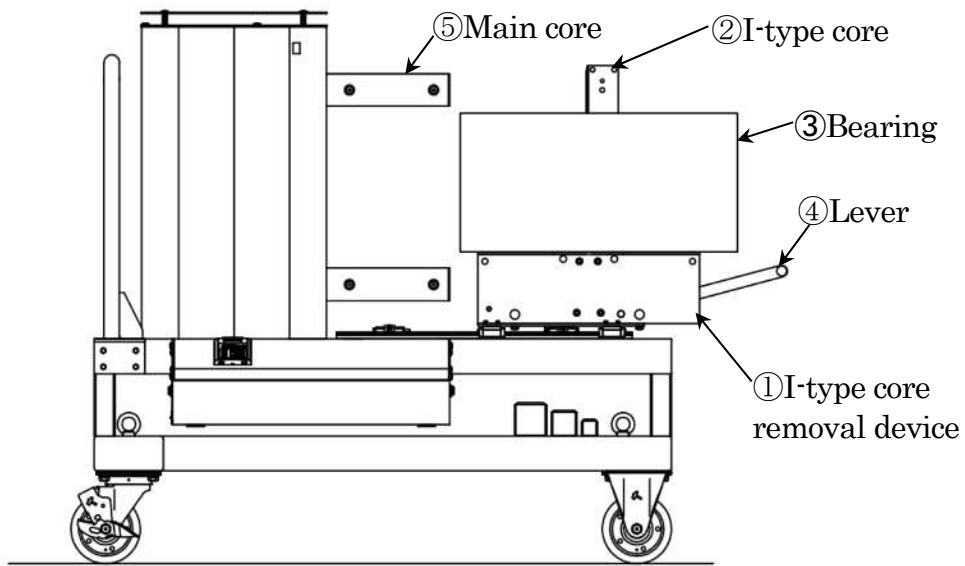
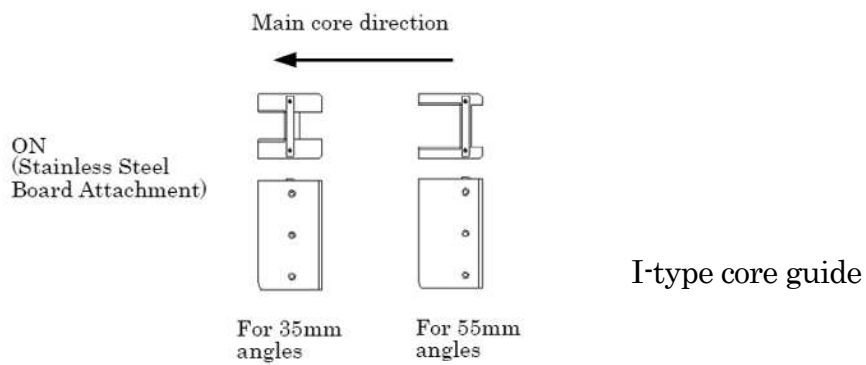
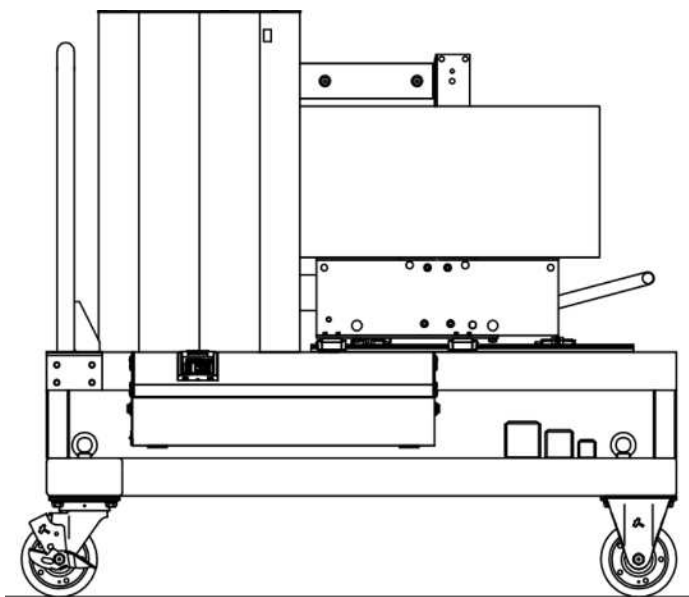

Fig 7-16
Fig 7-17
Fig 7-18
- (i) Ensure that the ① I-type core removal device is drawn to the far-right portion as shown in Figure 7-16.
- (iii) If you use the ② I-type core other than the largest cross-section for the type, insert the I-type core guide shown in Figure 7-17 into the core insertion part of the I-type core removal device. (The side with the stainless steel board is to be upside.)
- (iv) Place the ③ bearing on the I-type core removal device
- (v) Stand the ② I-type core on the ① I-type core removal device as indicated in Figure 7-16.
- (vi) Lower the ④ lever and slide it toward the ⑤ main core.
- (vii) Release the ④ lever after the ② I-type core touches the ⑤ main core as indicated in Figure 7-18.
- (i) From the state of Figure 7-18, lower the ④ lever and pull it until it is as shown in Figure 7-16.
- (ii) Detach the ② I-type core.
- (iii) Remove the ③ bearing from the I type core removal device. Be sure to use heavy-duty/ heat resistant gloves since the bearing is hot.